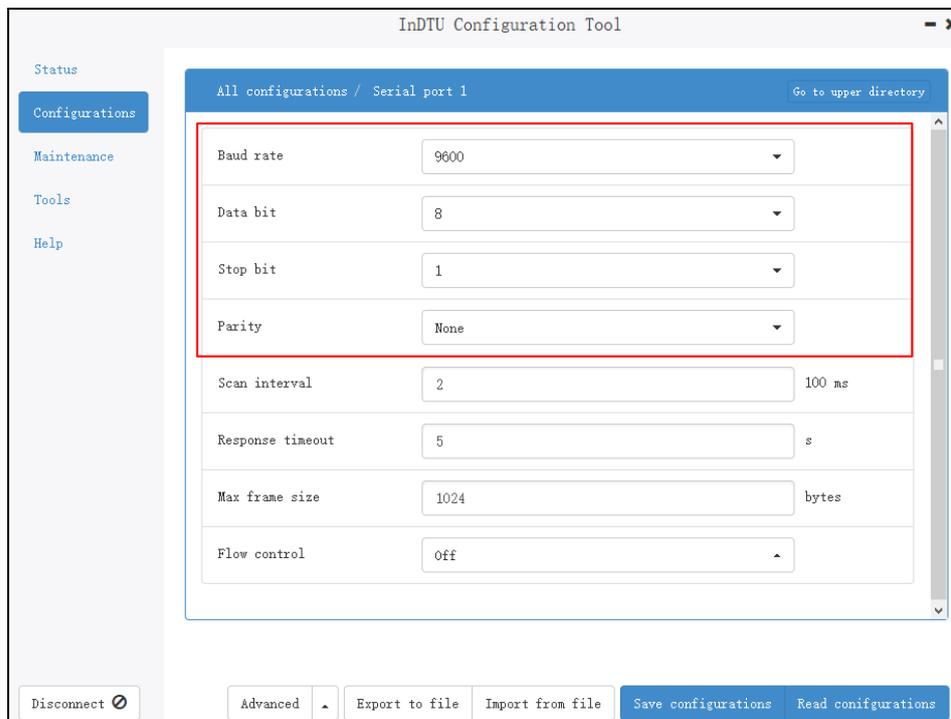

Figure 2-3 Setting local serial port parameters
Step 3: Click Configuration>>GPRS to modify parameter settings. For example, modify the Auto dial function, as shown in Figure 2-3. The default parameters are the public network dialing parameters. Do not modify the default parameter settings unless you are using a private network. For the private network, modify the APN, and user name/password for GPRS dialing.